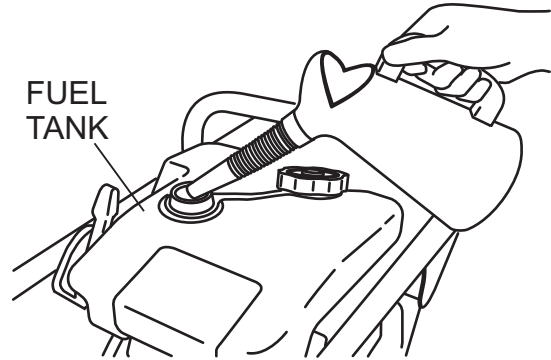
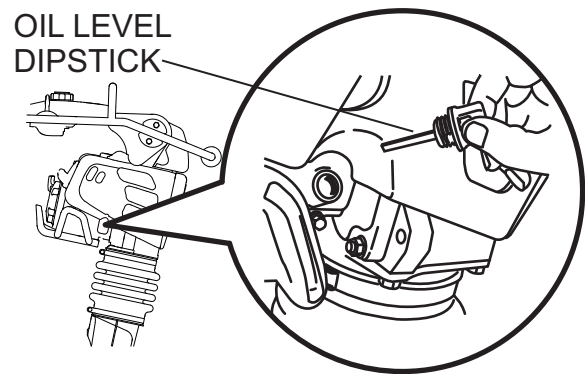

Figure 4. Fuel Tank
Figure 5. Engine Oil Dipstick
1. Fill the fuel tank (Figure 4) with unleaded gasoline. At the same time, check the engine oil and make it a habit to replenish it often (Figure 5).
2. **Units with Carburetor Primer System:** Push the primer pump bulb four (4) times to deliver fuel to the carburetor (Figure 5-B).